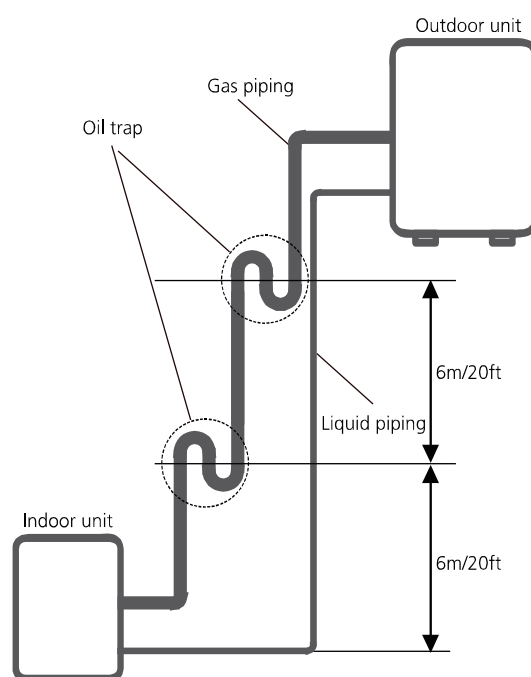

Fig. 6.3
-It is recommended that vertical suction risers not be upsized. Proper oil return to the compressor should be maintained with suction gas velocity. If velocities drop below 7.62m/s (1500fpm (feet per minute)), oil return will be decreased. An oil trap should be installed every 6m (20ft) of vertical suction line riser. (See Fig. 6.3)